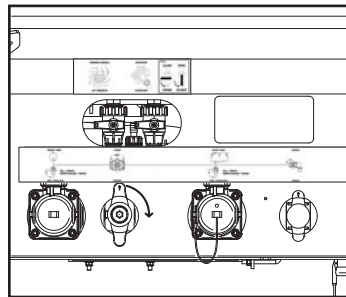

Figure 28
3. Turn the suction valve to the right for suction from the main tank **(figure 28)**.